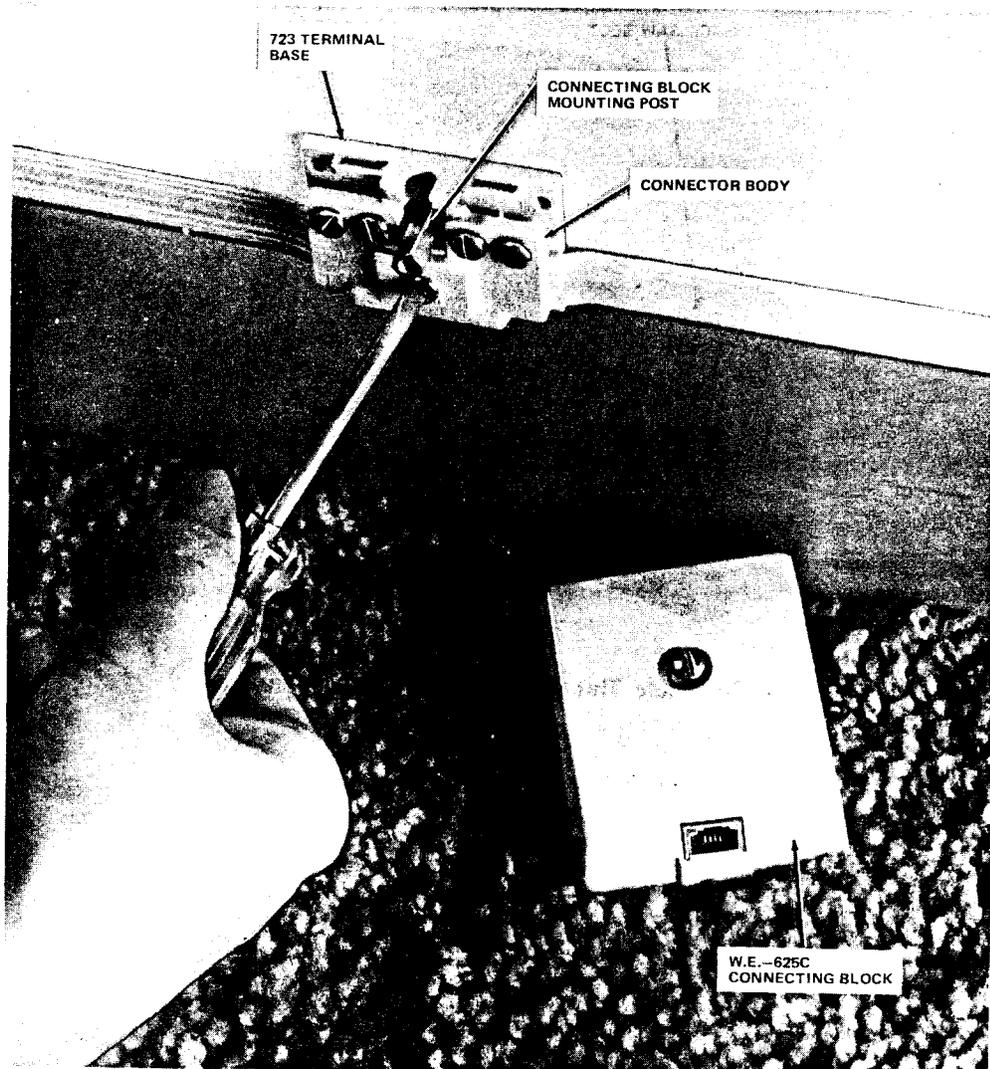

Fig. 12—No. 723 Terminal Base With W.E. 625C Connecting Block
3.11 Installing No. 723 Terminal Base (Fig. 12): For use with 625C connecting block (Fig. 12) (modular telephone set termination).